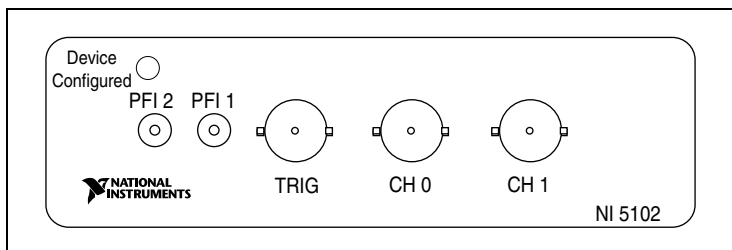

Figure 12. NI USB-5102 Front Panel
- ◆ **NI USB-5102 Front Panel**—Figure 12 shows the NI USB-5102 front panel.